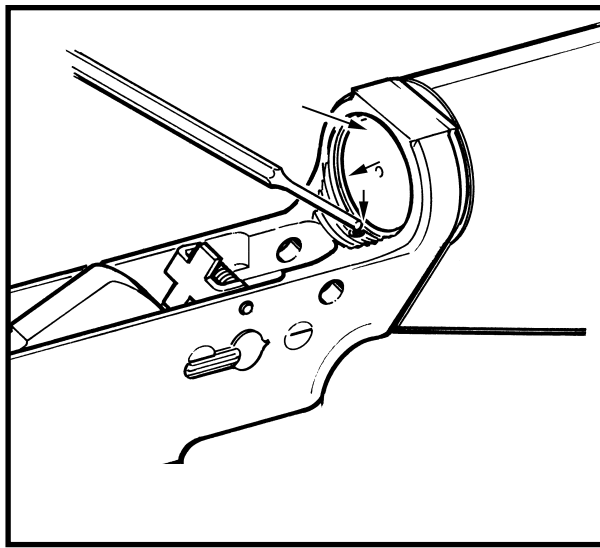

Figure 3-2-8 Releasing the Buffer Assembly
- h. Push in slightly on the buffer assembly and maintain control against the pressure of the return spring. Depress the buffer retainer with a suitable object. See Figure 3-2-8;